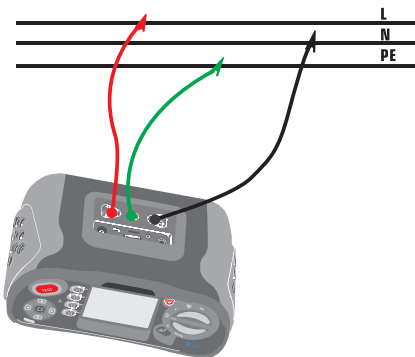

Figure 8 Hi Amp LOOP-Test lead connection
- 3-Connect the test leads as shown in the Figure 8